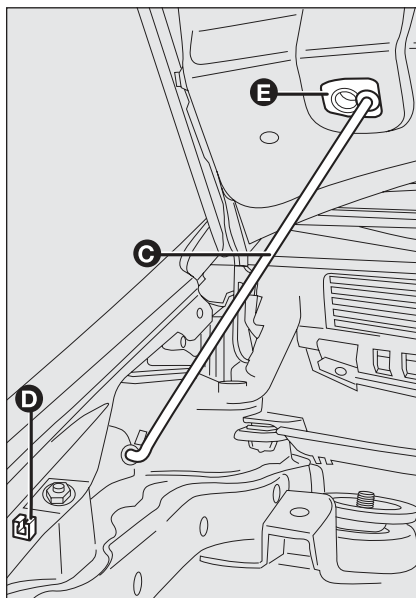

fig. 107
- lift the bonnet and at the same time release the rod **C**-fig. 107 from the catch, then fit end **D** of the rod into the bonnet recess **E**.
CLOSING fig. 107